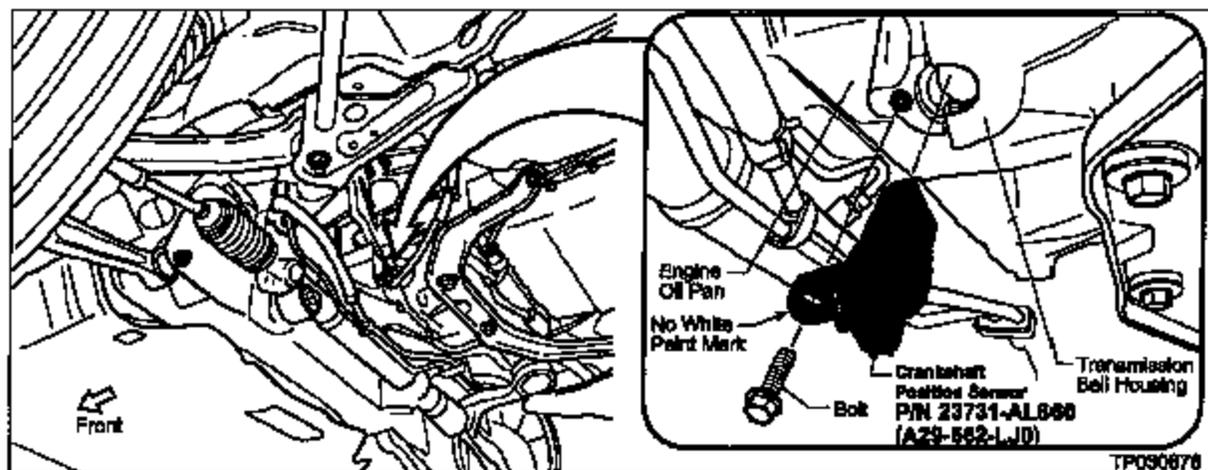

Figure 9 (G35 Sedan Crankshaft Position Sensor Location)
- Figure 9 (below) shows the G35 Sedan Crankshaft Position Sensor location